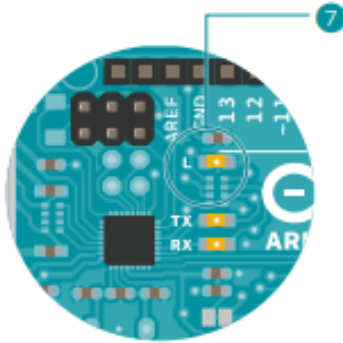

Fig. 2
- 7 A few seconds after the upload has completed, you should see the yellow LED with an **L** next to it start blinking. See Fig. 2.